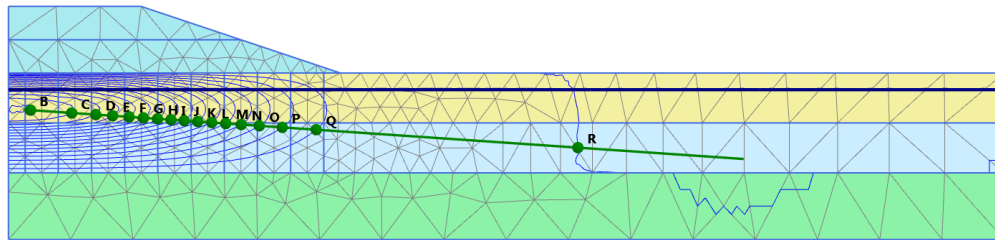

Figure 121: Excess pore pressure contours after consolidation to $P_{excess} < 1.0 \text{ kN/m}^2$
5. To show the **labels** of the contour lines on the soil profile click on the **Draw scanline** button  (or the corresponding option in the **View** menu). Then on the geometry make a line by clicking on an initial point and dragging on the contours to be identified (Figure 121 (on page 139)).
By exploring the different phases, it can be seen that the settlement of the original soil surface and the embankment increases considerably during the **Phase 4**. This is due to the dissipation of the excess pore pressures (= consolidation), which causes further settlement of the soil. Figure 121 (on page 139) shows the remaining excess pore pressure distribution after consolidation. Check that the maximum value is below 1.0 kN/m².